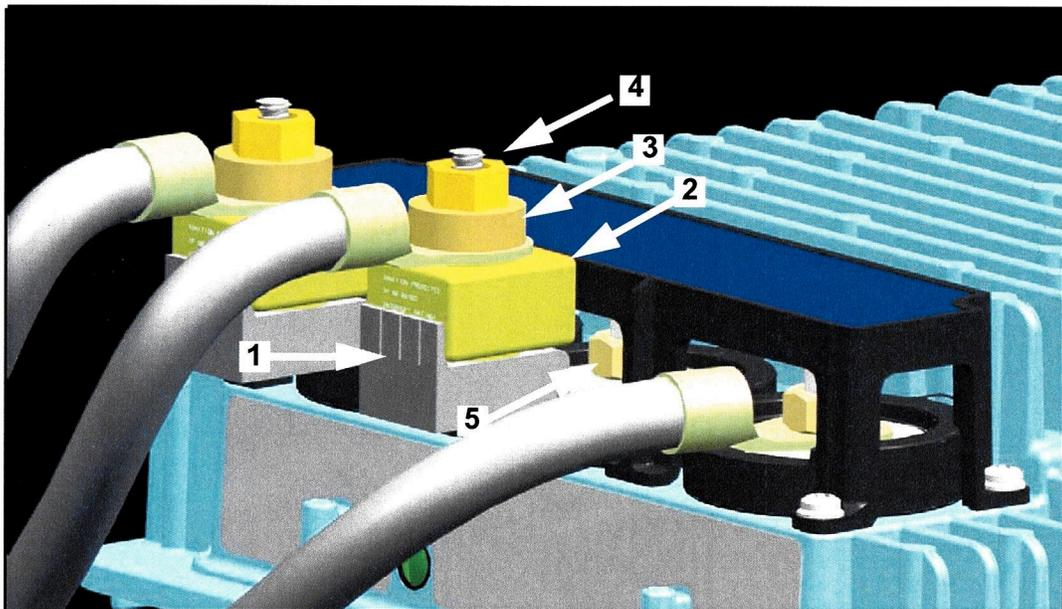

Figure 2. Fuse assembly hardware installation order.
13. Orient and install the fuse, p/n 07-08-3317 or 07-08-4033 (dependent on coach series), on the busbar stud (refer to Figure 2).